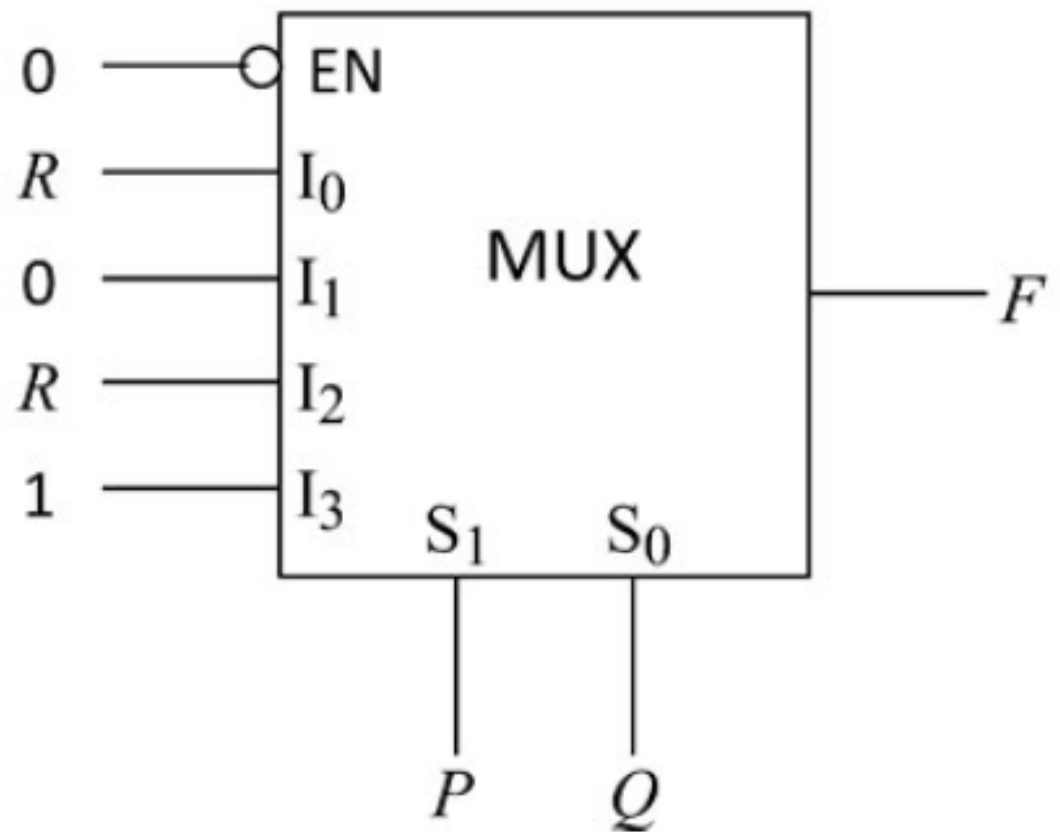

Figure 4.9:
14. Fig. 4.9 below shows a multiplexer where S0 and S1 are the select lines, I0 to I3 are the input lines, EN is the enable line and F(P,Q,R) is the output. Find the boolean expression for output F as function of inputs P,Q,R using K-map.